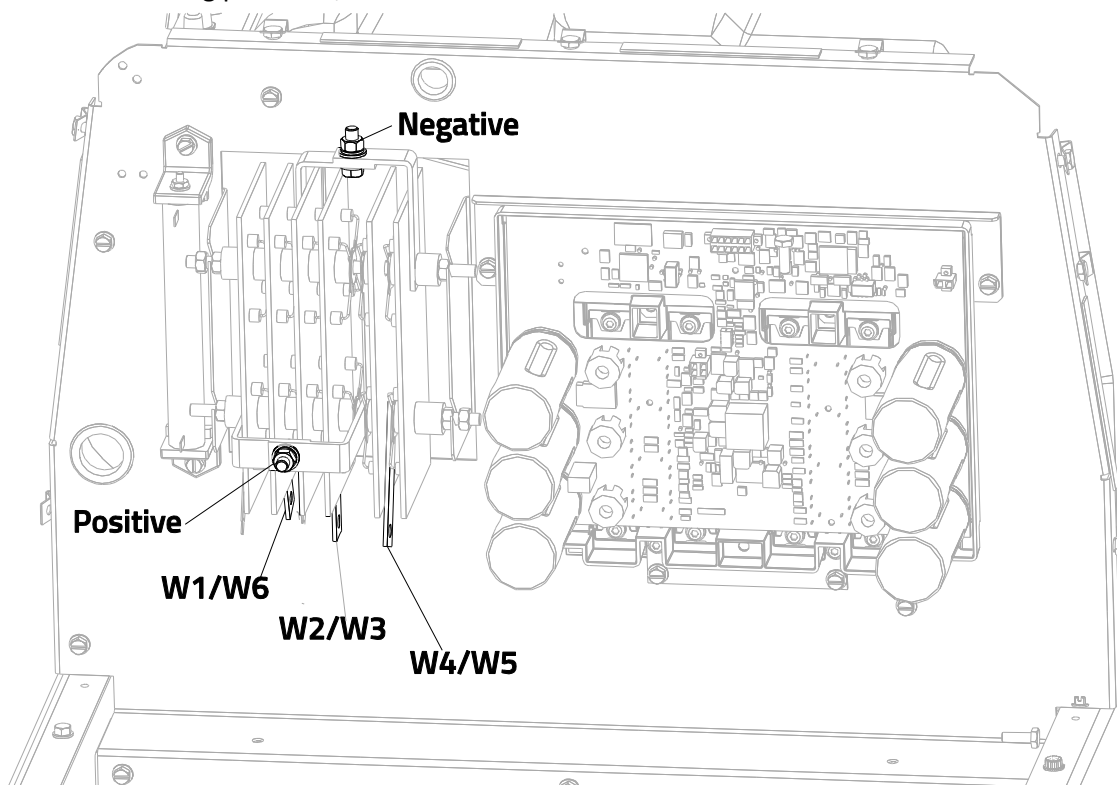

Figure F.12
1. Locate weld winding leads W1/W6, W2/W3, and W4/W5 where they connect to the three-phase output bridge rectifier. **SEE FIGURE F.12. SEE WIRING DIAGRAM.**